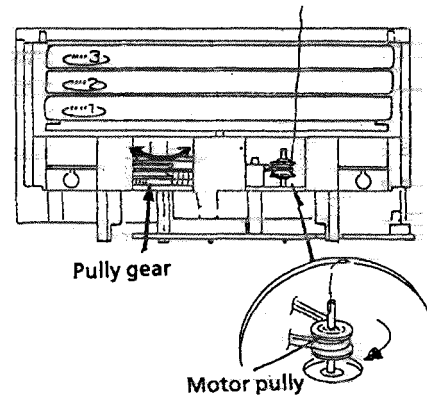
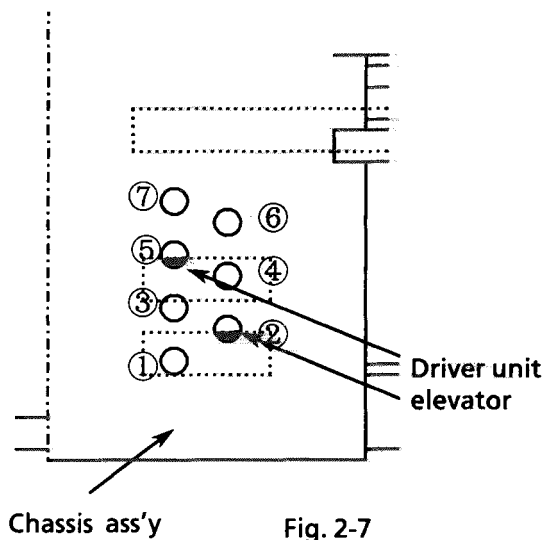

Fig. 2-8
Fig. 2-7
10. Check that the driver unit elevator is seen from a hole (marked ② or ⑤) on left side of the CD changer mech.. (See Fig. 2-7.)
[NOTE] Set the elevator in correct position (Fig. 2-7) by rotating the pulley gear with finger if it is not positioned correctly (Fig. 2-8.).
11. Rotate the motor pulley clockwise with finger until the lifter unit's stopper is lowered from ⑥ hole located on the CD tray ass'y. (See Fig. 2-8.)